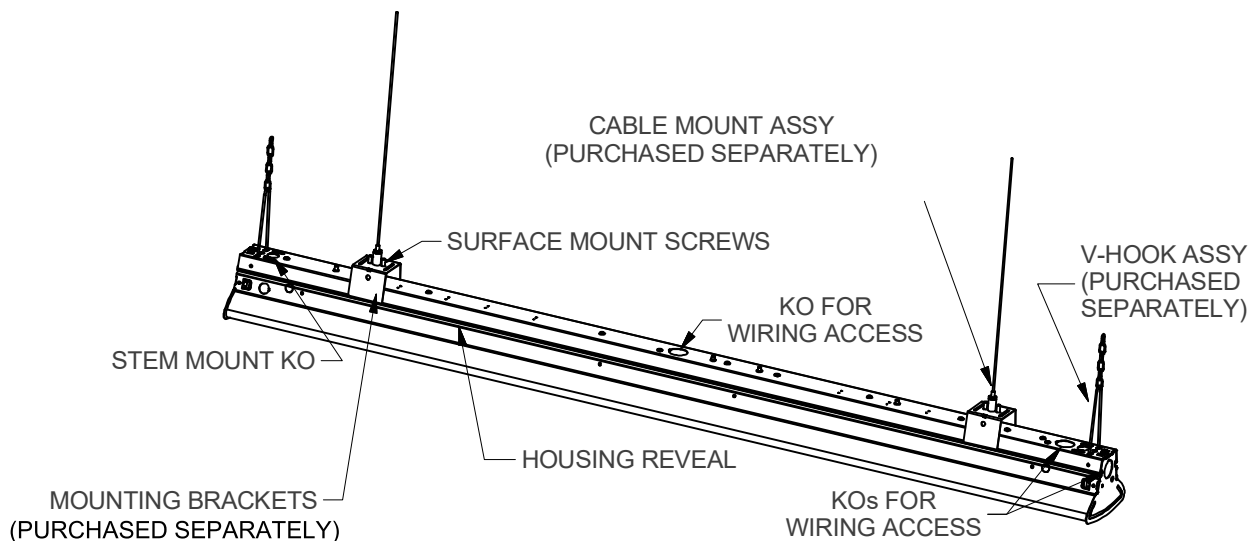

FIG. 1- STAND ALONE CONFIGURATION
- 3) To install with HANGER BRACKETS (See FIG.1):
- B. Remove stem mount KOs shown in Fig 1 at each end of fixture